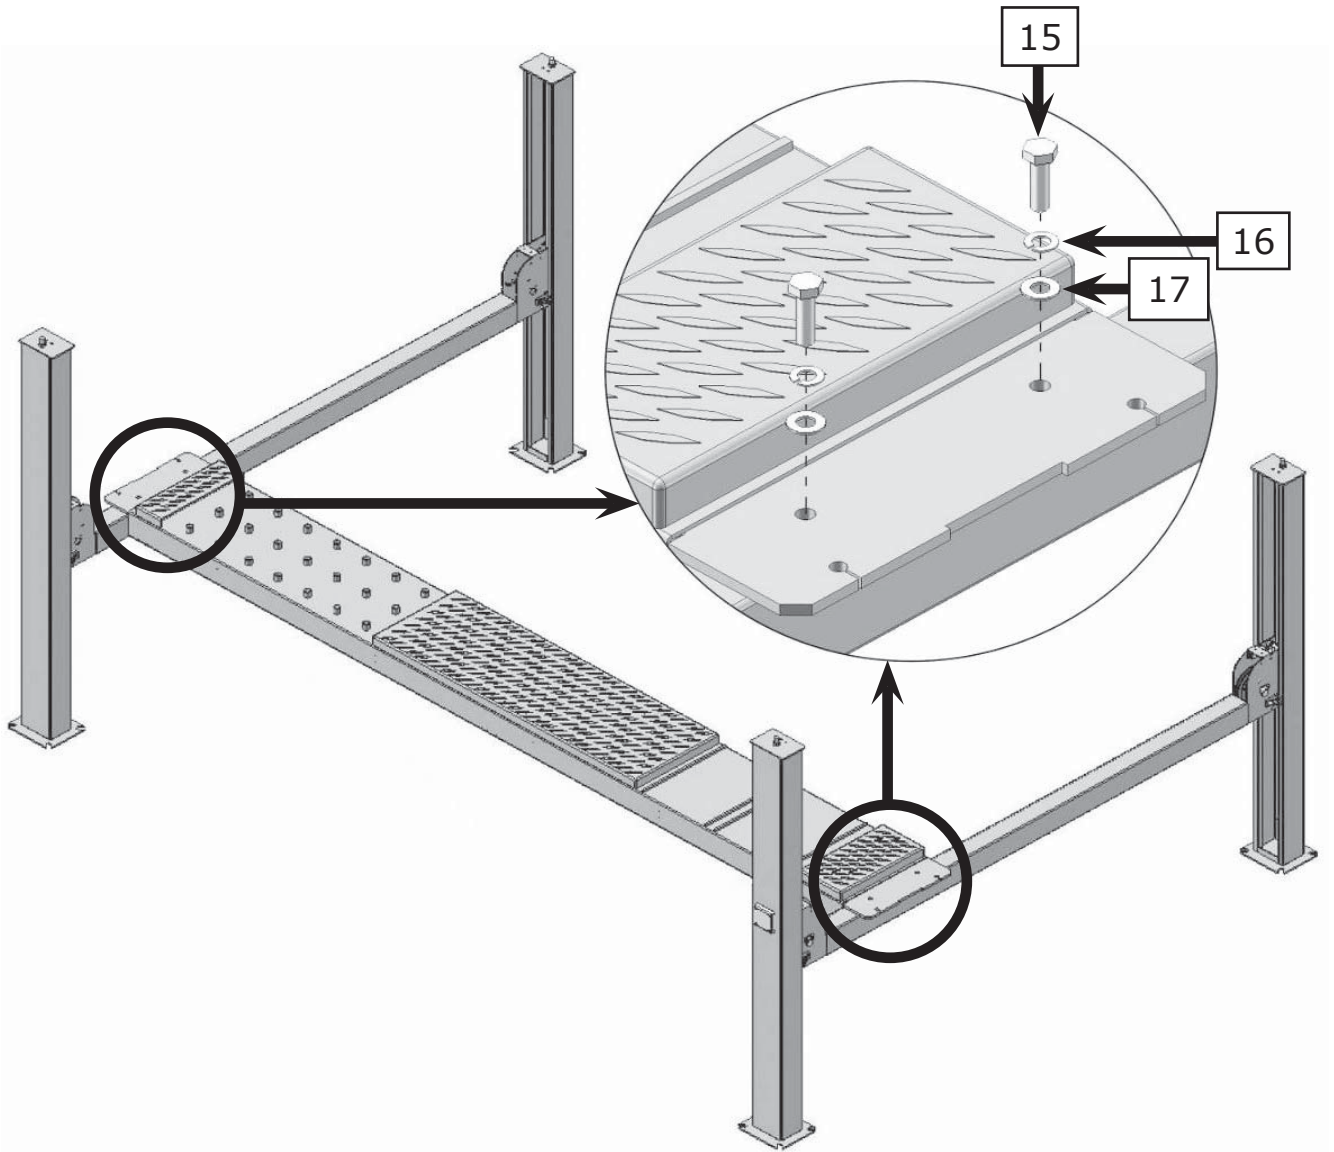

Fig. 19
2. Install the platform to Cross Beam with forklift or by hand (See Fig. 19).